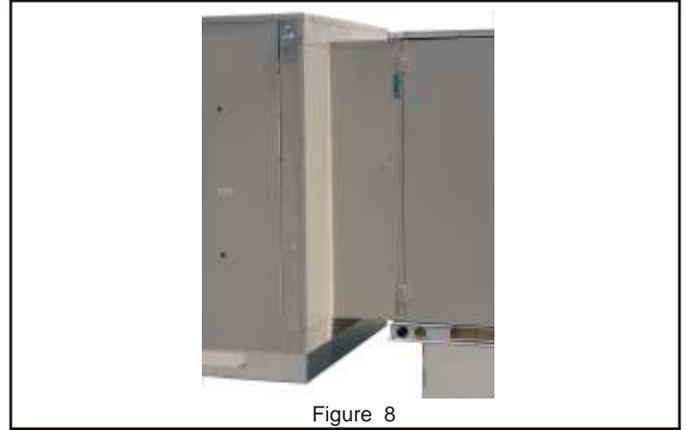

Figure 8
2. Attach bottom filler panel with platform support rail to bottom opening of rooftop unit aligning with screw holes used by removed door panel. Secure in place as shown in **Figure 8.**